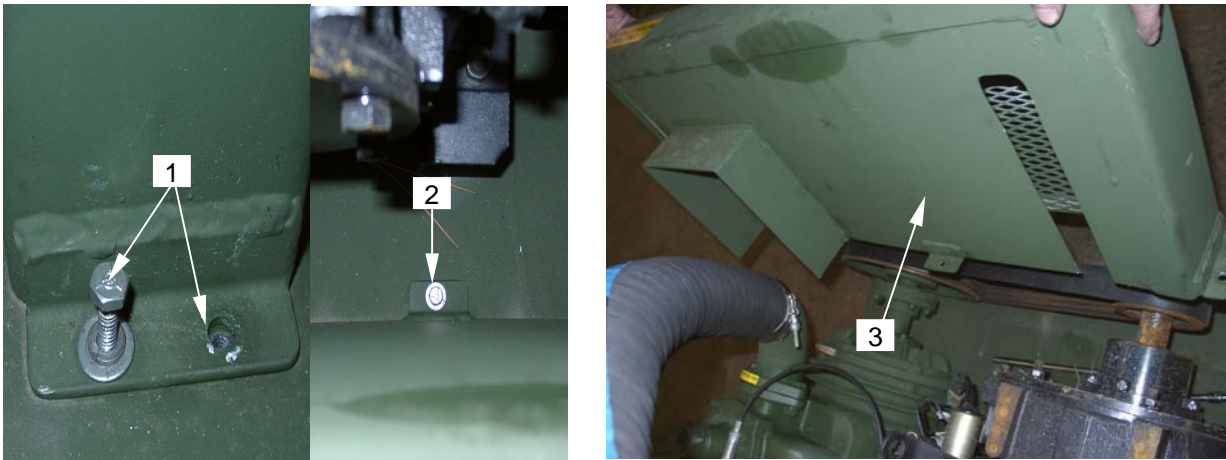

Figure 2. Removing Pulley Guard
2. Remove hex bolts and washers (**figure 2, item 1**) from the pulley guard brackets. Two are located at each end of the guard, and one at the rear center (**figure 2, item 2**).
3. Remove pulley guard (**figure 2, item 3**).